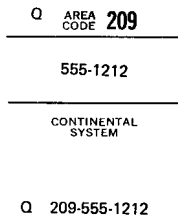

FIGURE 10. Station Number Cards
c. Stamp Station Number Card "Q" to identify modular installation. See Figure 10.